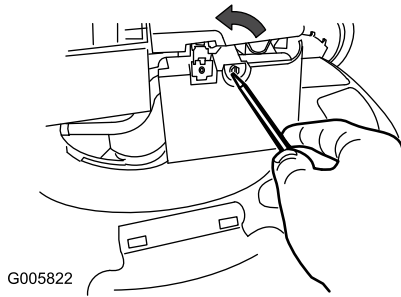

Figure 24
1. Use a screw driver to open the air-filter cover (Figure 24).